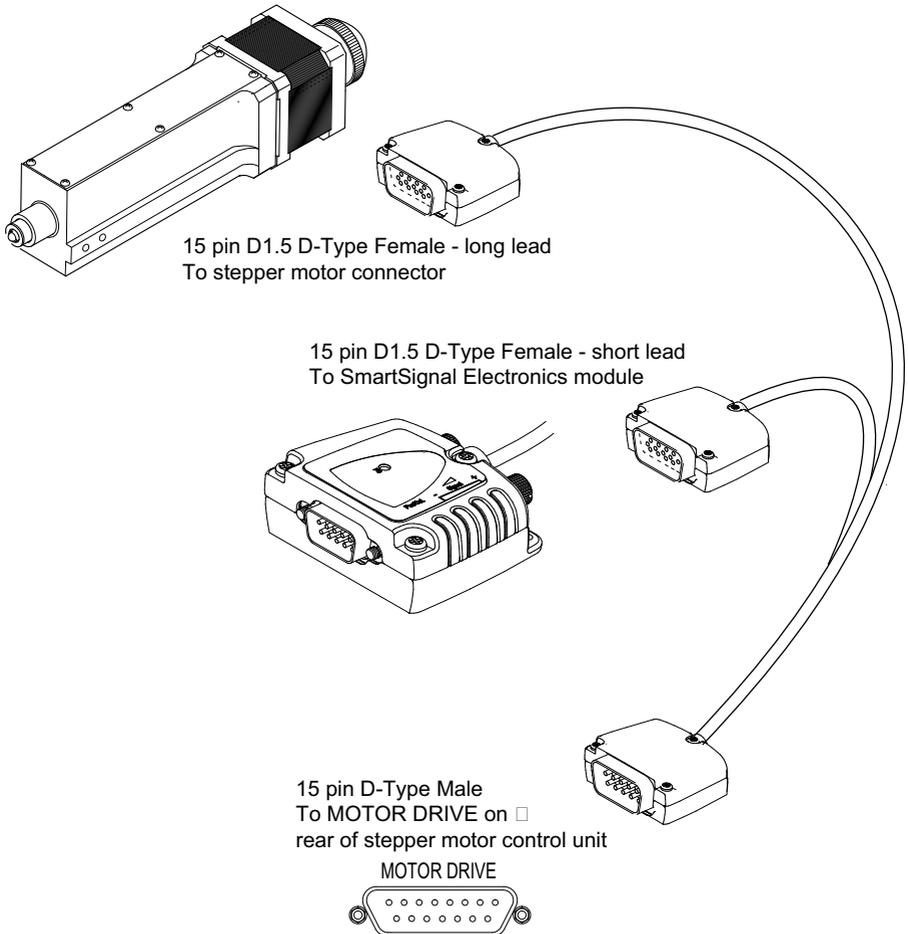

Fig. 3.9 Electrical connections
- 3) Using the splitter lead supplied, connect the stage to the Controller unit and SmartSignal module as shown in Fig. 3.9.